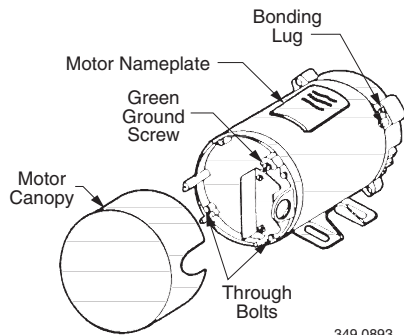

Figure 2: Typical ground screw and bonding lug locations
- Permanently ground motor. Use green ground terminal provided under motor canopy or access plate (See Figure 2); use size and type wire required by code. Connect motor ground terminal to electrical service ground.
- Bond motor to pool structure. Use a solid copper conductor, size No. 8 AWG (8.4 sq. mm) or larger. Run wire from external bonding lug (see Figure 2) to reinforcing rod or mesh.